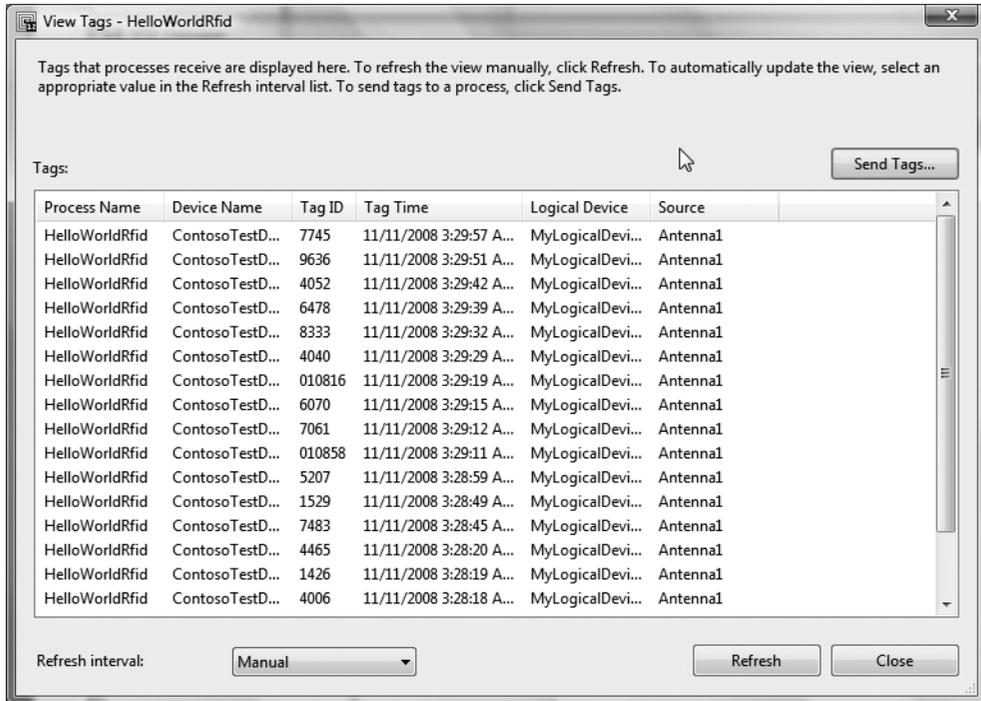

Figure 3-16. Viewing tags received in the process
14. The process should now be active, connected to the simulator, and receiving tags. To verify this, wait a few seconds, and right-click the HelloWorldRfid process. From the context menu, click View Tags. As shown in Figure 3-16, the tags pumped into the process by the simulator are visible. Note that your View Tags screen will not match exactly, as the tag IDs are randomly generated.